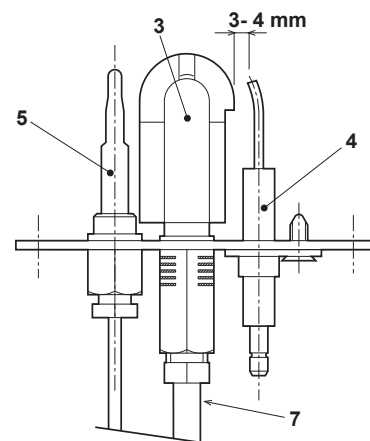

Fig. 16
- The thermocouple must be free of scale and properly positioned (see fig. 16).
Change the electrode or position it correctly (see fig. 16).